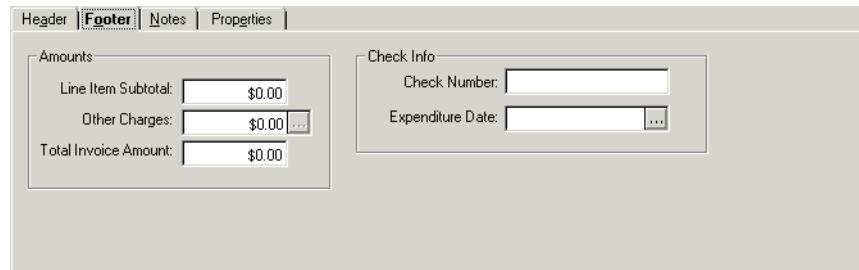

Figure 12-12. Footer tab
3. Add footer information to a new invoice. Click the **Footer** tab (see Figure 12-12).